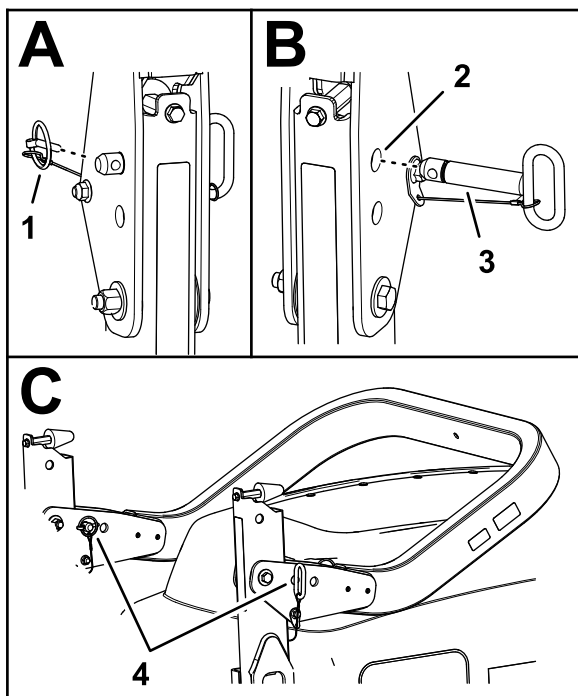

Figure 53
2. Remove the lynch pins that secure the roll-bar pins at each side of the roll bar (Figure 53).